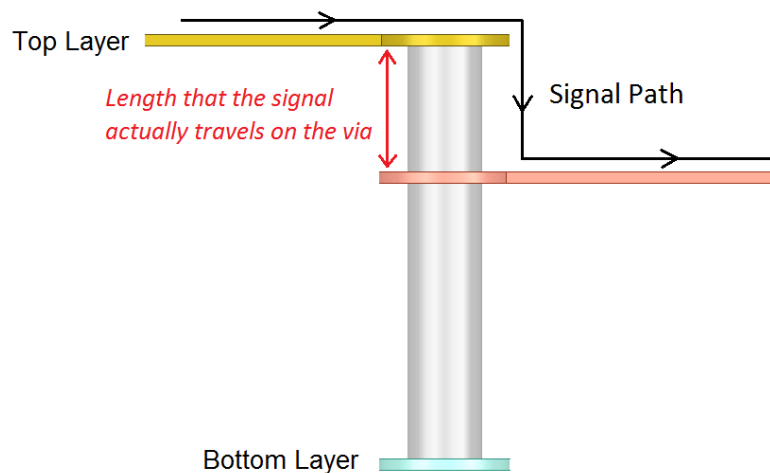

Figure 2. Length that the signal actually travels on the Via
4. At a speed of 3000 MT/s, signal vias can be a significant source of crosstalk. If not properly designed, it can introduce crosstalk larger than that from the trace. To minimize via crosstalk, make sure the total number of vias to be two or less on each point-to-point single-ended/differential trace. Place at least one ground stitching via within 50 mils of signal via when switching reference planes to provide continuous return path and reduce crosstalk. If it is not possible to place enough ground stitching vias due to space limitation, try to make the length that the signal actually travels on the via as short as possible, as illustrated in Figure 2.